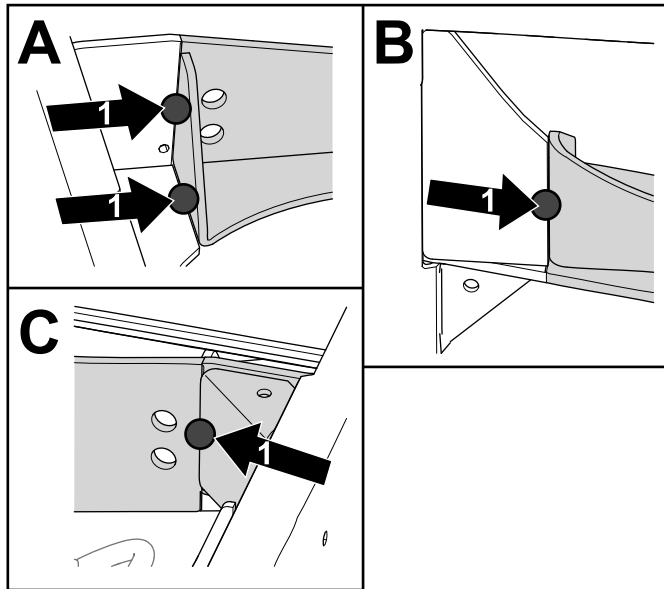

Figure 14
5. Apply tack welds to the outside, underside, and where the corner support touches the axle support in order to hold it in place (Figure 14). Repeat on the other side.